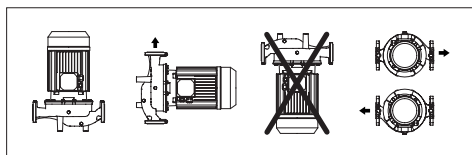

FIG 2: Installation of motor $\leq 7.5\text{kW}$ 2 pole and $\leq 1.1\text{kW}$ 4 pole
- The pumps can be installed on delivery or return pipes and in horizontal and vertical position, provided the motor is never placed below the pump to avoid water leakage into motor or bearings. (FIG 2) (Note that vertical installation is possible for $\leq 7.5\text{kW}$ 2 Pole and $\leq 1.1\text{kW}$ 4 pole units)